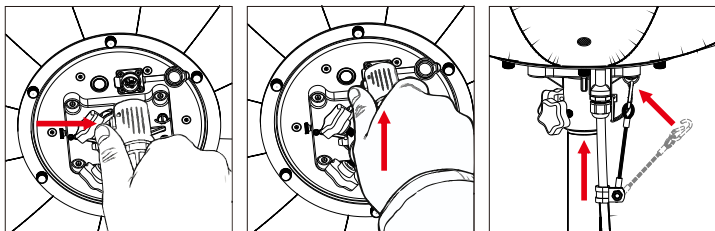

Fig.5 Power Connector
- 5.Plug the quick-connect terminals from the base and lamp head together. (See Fig.5)